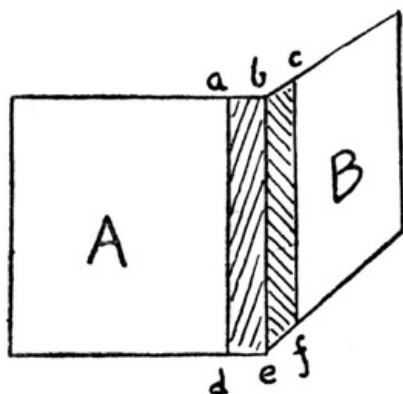

FIG. 2
(2) Using paper hinges. The hinge should extend the whole length of the edges that come together, as in Fig. 2, where pieces of cardboard A and B are joined by the hinge *a b c d e*